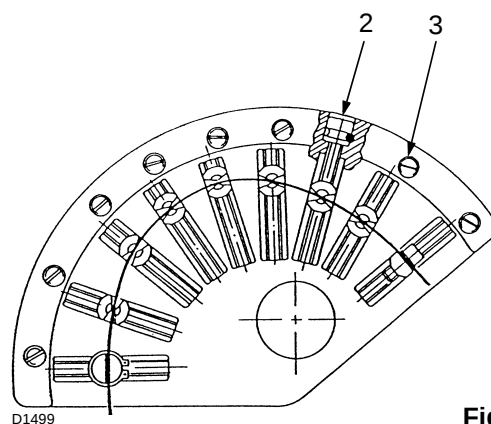

Fig. 25
- 6 Proceed with setting the air delivery by adjusting the variable profile cam, by turning the screws 2)(Fig. 25).